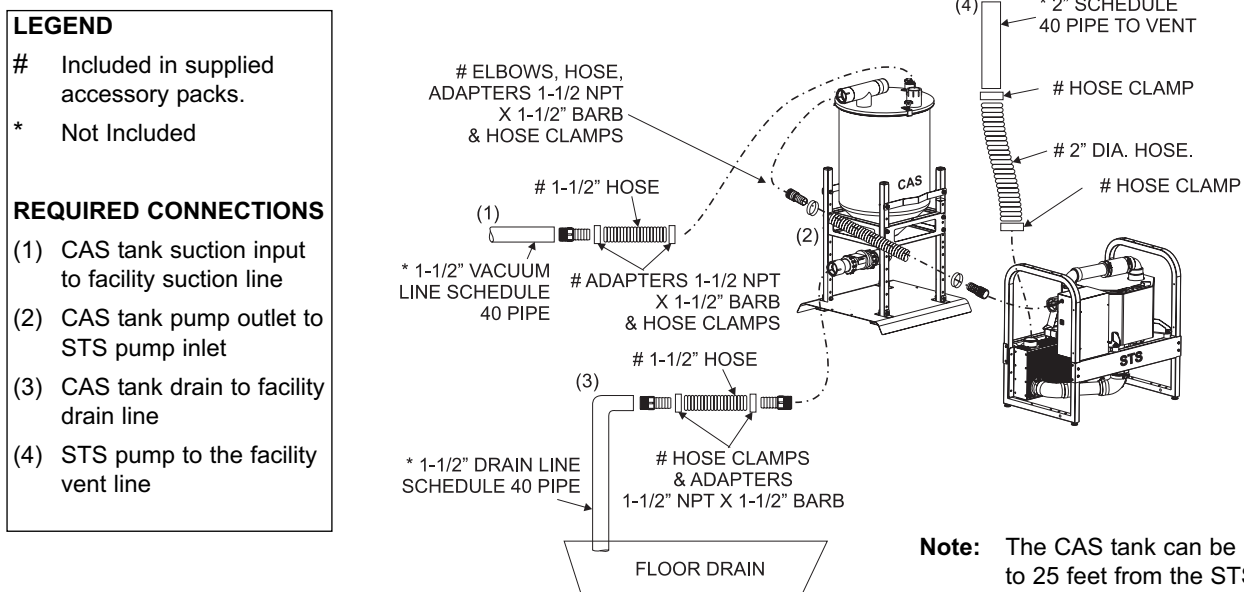
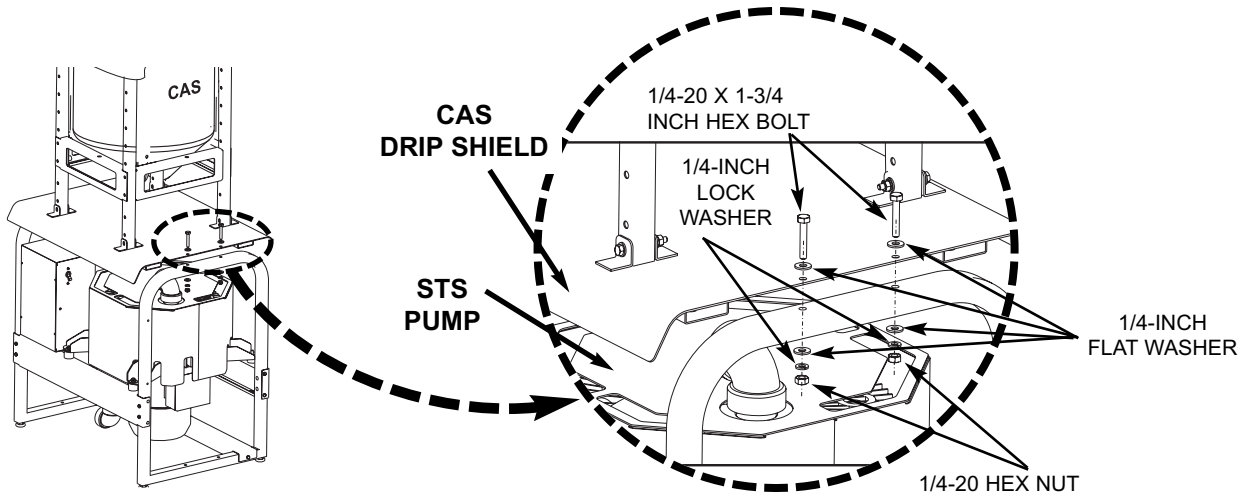

Figure 5. STS Pump and CAS Tank Pipe Connection Diagram
Figure 6. Stacking the CAS on Top of a STS Pump Hardware Detail
Installation Accessory Packs . Figure 5 shows the pipe and hose connections required for all STS configuration installations using accessory packs as follows:.
Connection Procedure. Installation of a single STS model configurations consist of making connections between a single 4 or 8 gallon CAS tank, P/N 54300, and a STS pump, P/N 54180. Refer to Figure 5 for the connection diagram and perform the following procedure.
3. When stacking the CAS tank on top of a STS pump, refer to Figure 6 and secure the tank to pump using supplied hardware. Make sure to bolt or secure installation to the floor or wall when stacking any STS system.
6. Using industry standard techniques, install pipe to hose adapters as shown in Pipe Connection Diagram Figure 5.
Installation Accessory Packs . Figure 5 shows the pipe and hose connections required for a dual STS configuration installation using accessory packs as follows:
Connection Procedure. Installation of the dual STS model configuration consists of making connections between a single 4 or 8 gallon CAS tank P/N 54300, and two STS pumps, P/N 54180. Refer to Figure 5 and perform the following procedure. The tank and associated pumps can be stacked or installed side-by-side depending on the size of the installation site. When stacking the CAS tank and two STS pumps, refer to Figures 6 and 7 showing the method to secure the tank and pumps. In any case, the hose connections between the suction line and CAS tank, the CAS tank and drain line and pump to the facility vent line are identical as shown by Figure 5. Use the STST™ Dual Manifold Accessory Kit; P/N 54400 to connect the two STS pumps together for connection to the CAS tank as shown by Figure 8. Refer to Figures 5 through 8 and perform the following procedure.
5. Refer to Figure 6 and stack the CAS tank onto the two STS pumps. Secure the tank to the top pump using supplied hardware.
6. Measure and record distance between each connection point as shown in the corresponding Pipe Connection Diagram (Figures 5 and 8).
8. Using industry standard techniques, install pipe to hose adapters as shown in the corresponding Pipe Connection Diagram (Figures 5 and 8).